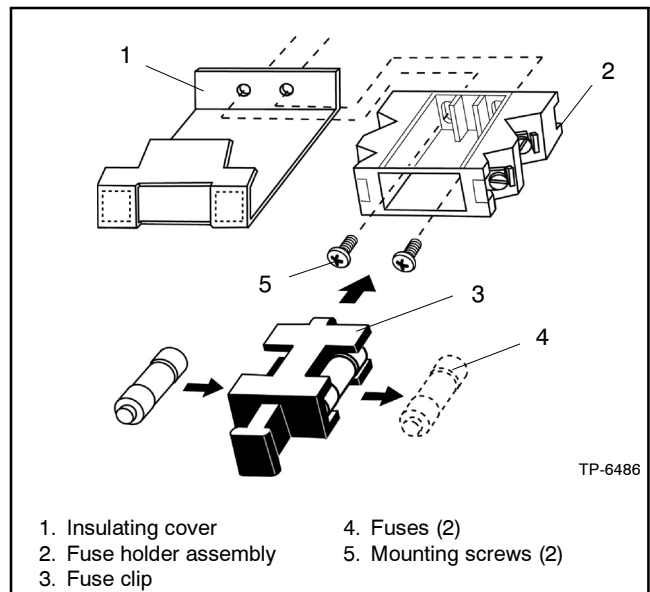

Figure 2-9 Preparing Fuse Holders
2. Bend the insulating covers to fit around the fuse holders as shown in Figure 2-9.